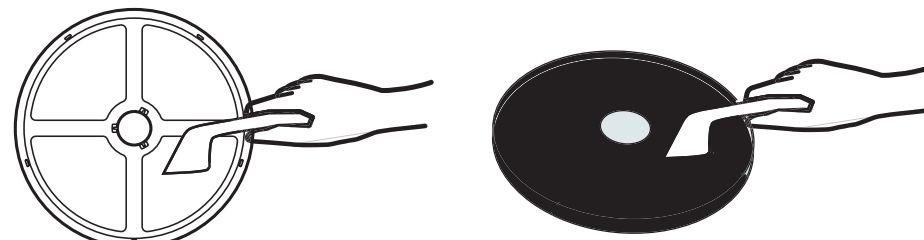

Fig. 15
2. Separate the three parts (Exhaust Vent Shroud, Lint Filter and Exhaust Filter) and use a soft brush or vacuum cleaner, to carefully clean any lint off the Lint Filter and Exhaust Filter, as illustrated below (Fig. 15).